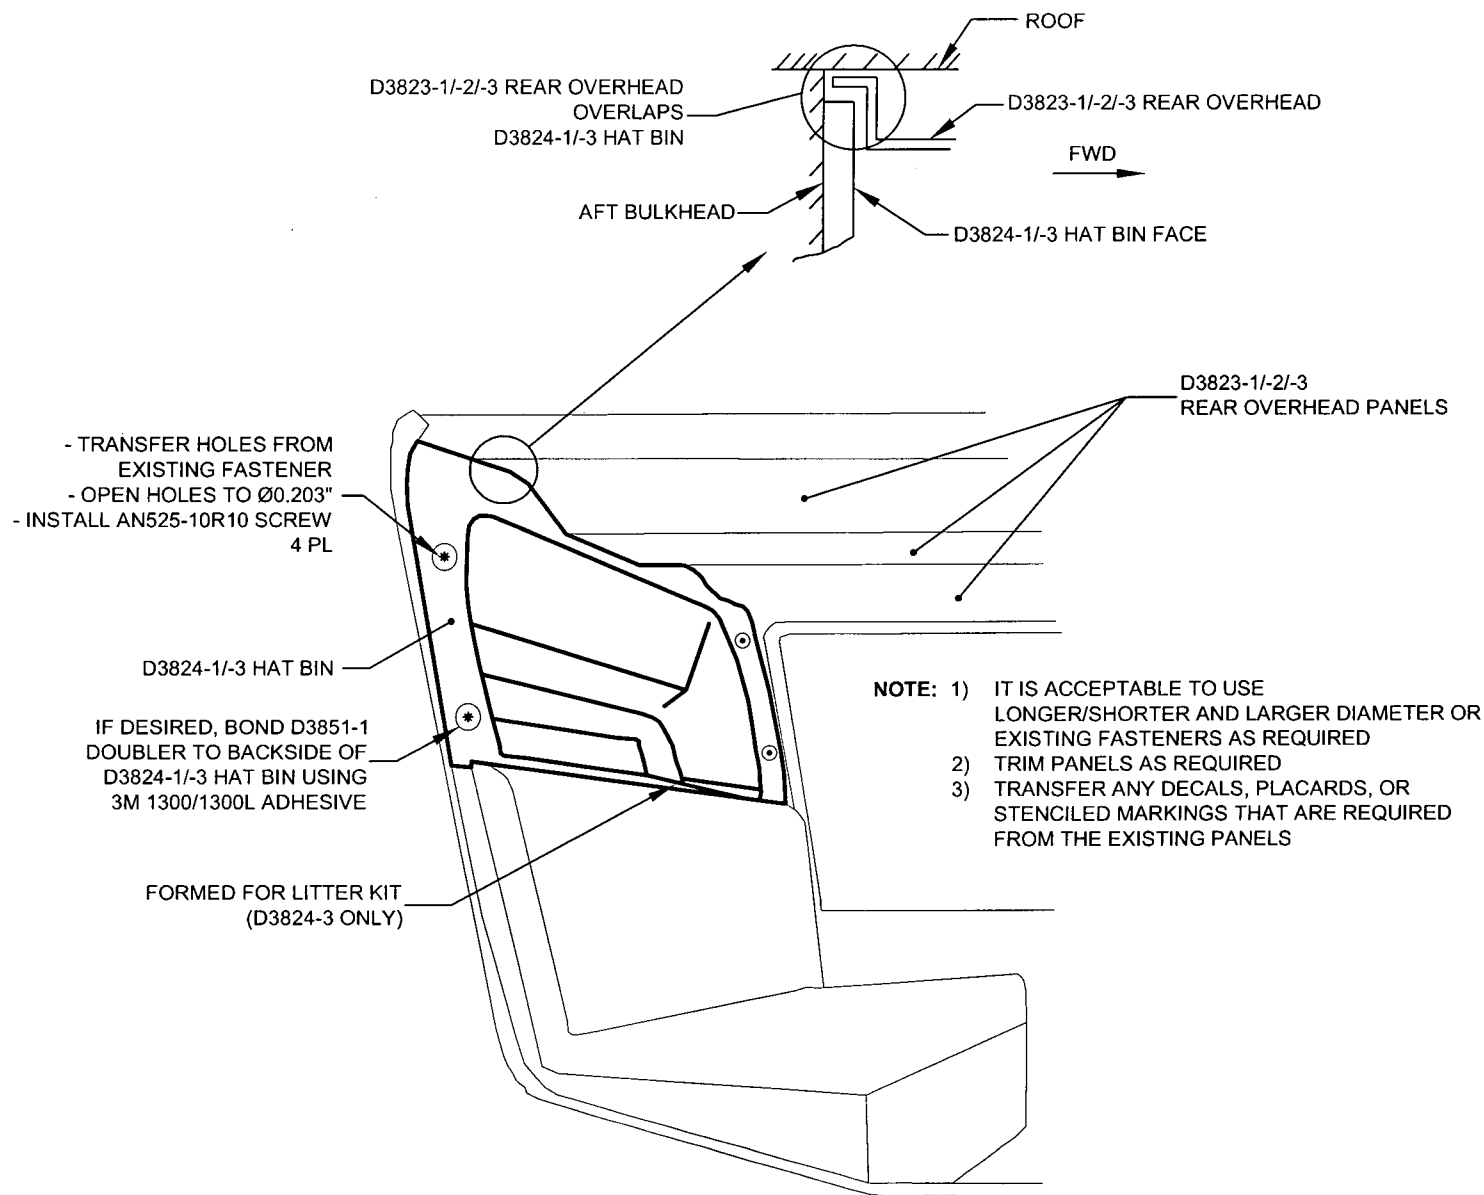

FIGURE 6 – D3824-1 HAT BIN INSTALLATION SHOWN (D3824-3 SIMILAR)
3.1.7 Position D3824-1 or D3824-3 Hat Bin as shown in Figure 6.
- a) Transfer-mark fastener locations to the D3824-1 or D3824-3 Hat Bin as shown in Figure 6.
- d) Install D3824-1 Hat Bin using fasteners as shown in Figure 6. Torque screws to 15-25 in-lbs (1.7-2.8 N-m).